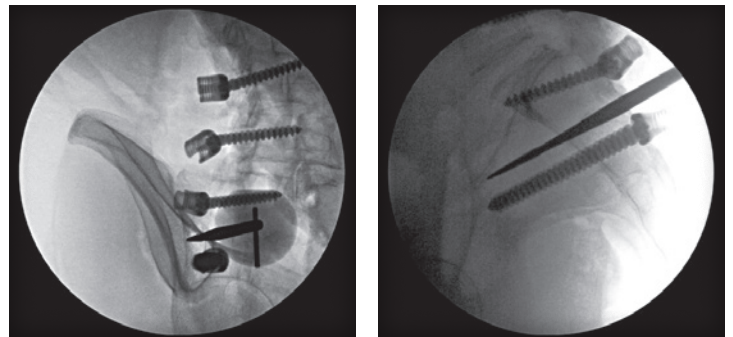

Figure 8
- ▶ **As the awl is advanced, it should become centered within the “teardrop” and remain parallel to the S2AI screw on the Lateral View (Fig. 8).**